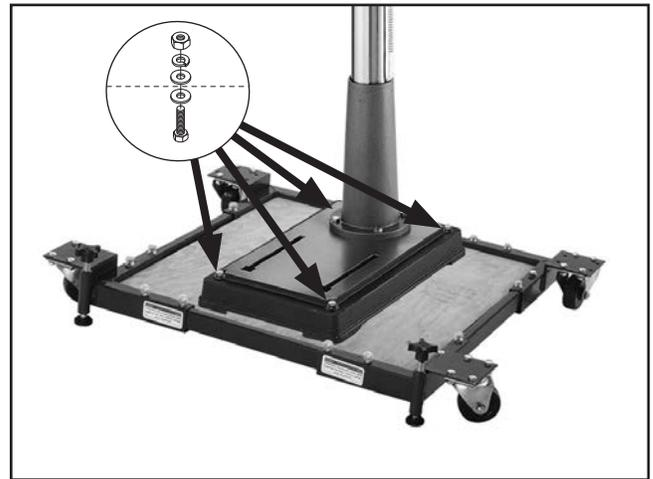

Figure 11. Example of drill press mounted to base plate.
5. Secure machine with through bolts, flat washers, lock washers, and hex nuts (see **Figure 11**).